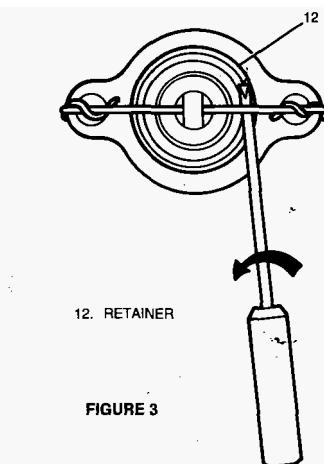

FIGURE 3
4. Insert wire through pushrod eyelet (17) and fasten one end to mounting hole (18).
6. Remove retainer (12) as shown in figure 3.